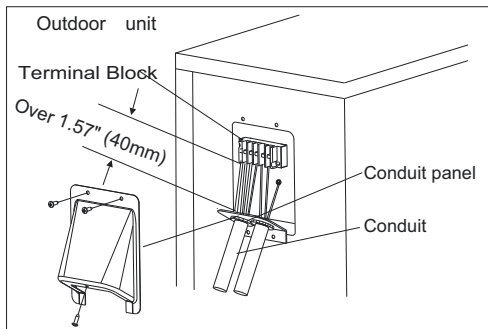

Fig. 15 — Field Wiring
5. Connect the conduit to the conduit panel (see Fig. 15).